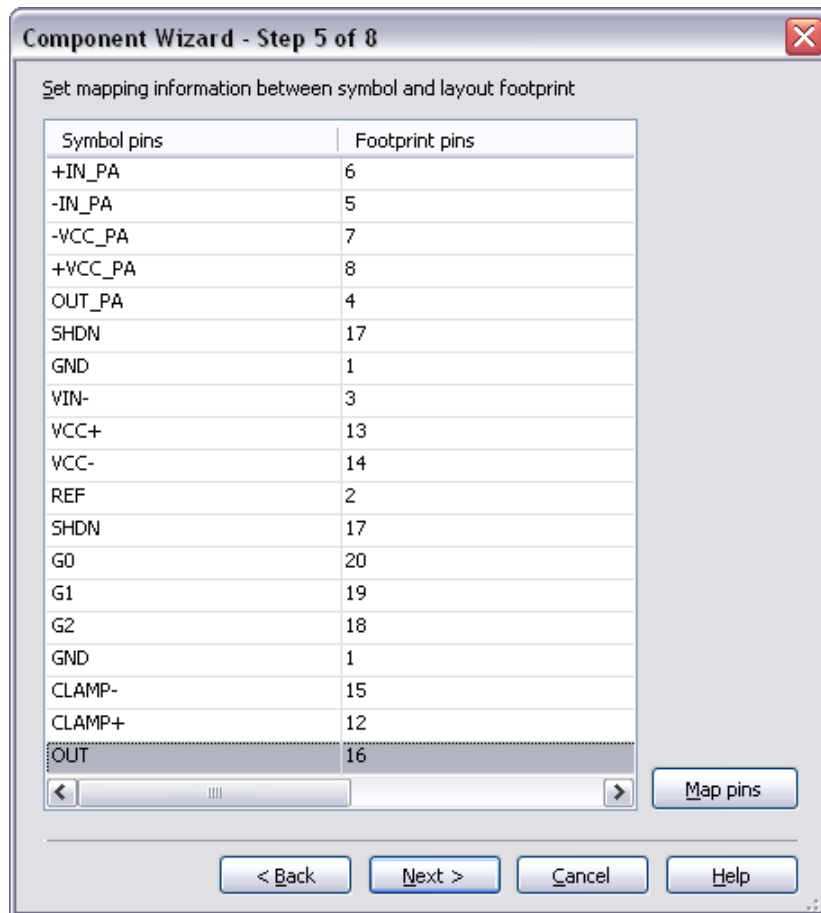

Figure 9. Mapping information between symbol and layout.
1. Click the corresponding **Footprint pins** cell for each row and assign a pin number. The configured window will look like Figure 9. Note that pins 1 and 17 shared pins.